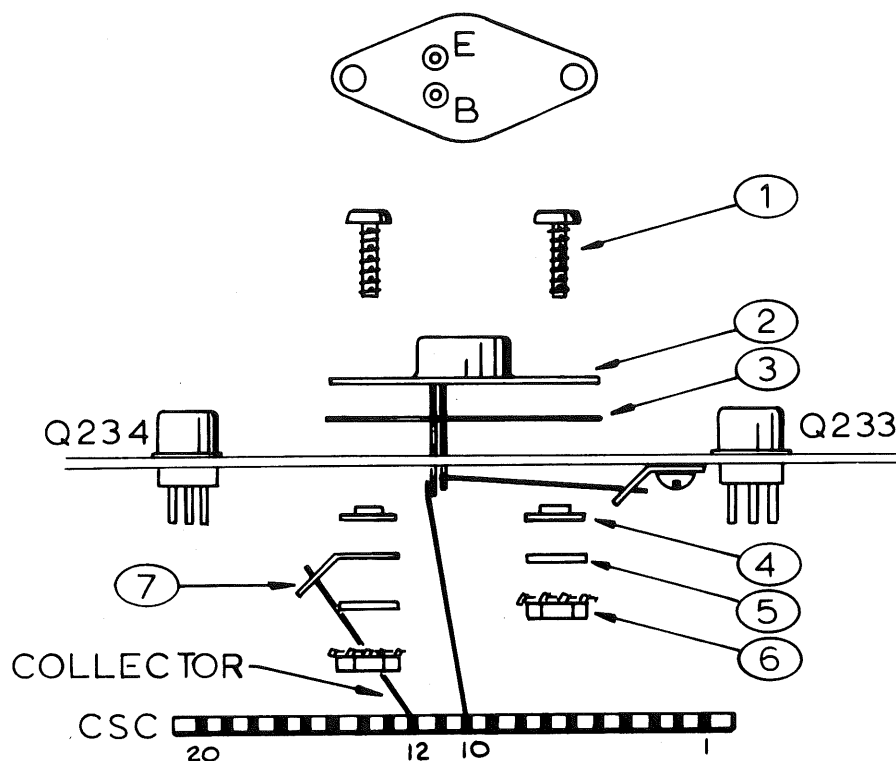

FIG. 2
5. Mount the new Q247, 2N4240 transistor (from kit), using the #6 hardware (from kit) as shown in Fig. 2, and wire as follows: